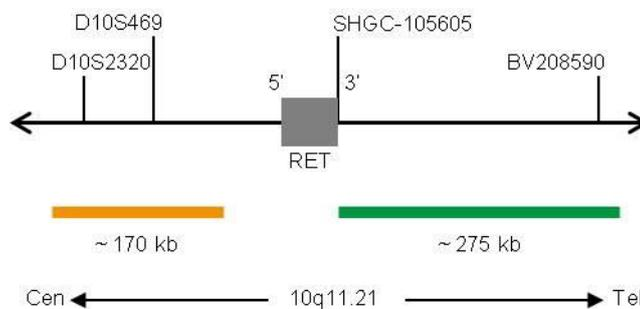

Fig. 1: RET Probe map (not to scale)
- ZyGreen (excitation 503 nm/emission 528 nm) labeled polynucleotides (~6.0 ng/μl), which target sequences mapping in 10q11.21* (chr10:43,626,274-43,902,346) distal to the RET breakpoint region (see Fig. 1).
- ZyOrange (excitation 547 nm/emission 572 nm) labeled polynucleotides (~4.0 ng/μl), which target sequences mapping in 10q11.21* (chr10:43,340,888-43,510,171) proximal to the RET breakpoint region (see Fig. 1).